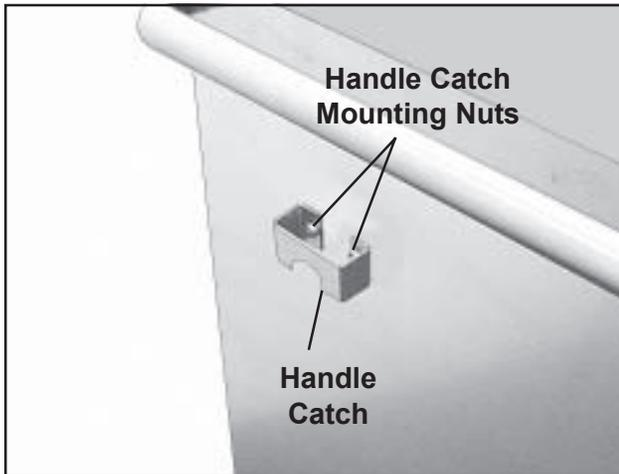

Figure 29. Handle Catch on Side of Case Cart (left side shown)
2. With a 3/8 in. wrench and a Phillips screwdriver, remove the two mounting screws/nuts on the handle catch (Figures 29 and 30), and lift off the catch.